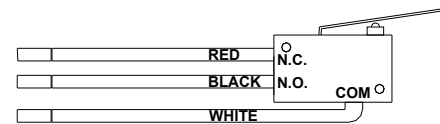
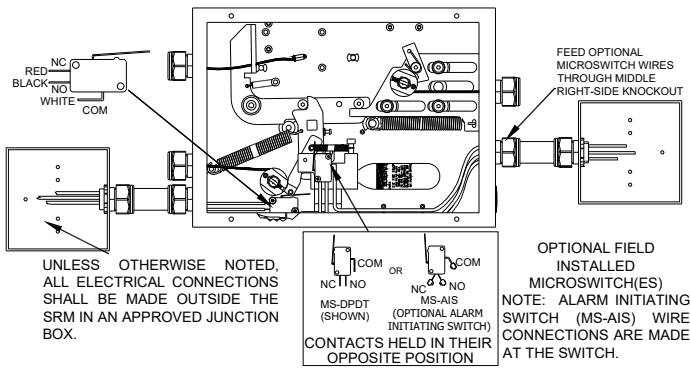

Figure 2-12.
Figure 2-13.
The Systems Releasing Module(s) comes with two (2) factory installed micro-switches (the same switches as the **Model MS-DPDT**) that are in their normal position when the SRM2 is in the **SET** position. The leads for these switches are approximately two feet long and need to be passed through the bottom left knock-out. See **Figure 2-12 and 2-13**.
The **Model MS-DPDT** is a field installed set of miniature electrical switches that provides two additional electrical dry connections if they are required. These switches are designed to shut off or turn on when the system is actuated. The **Model MS-DPDT** has two sets of contacts rated at 20.5 125/250 VAC, 1 1/2 HP at 250 VAC, 1/2 HP at 125 VAC each. See **Figure 2-12 and Figure 2-13**.